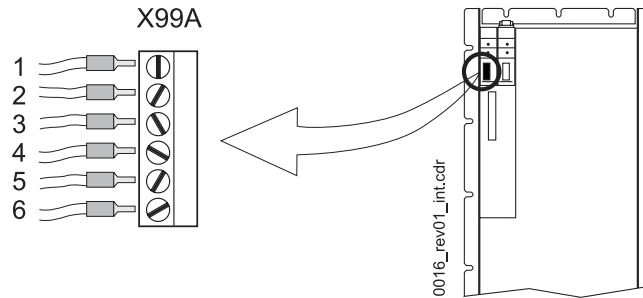

Figure 16: Control terminal X99A
2) Position, see Figure 16 on page 50.